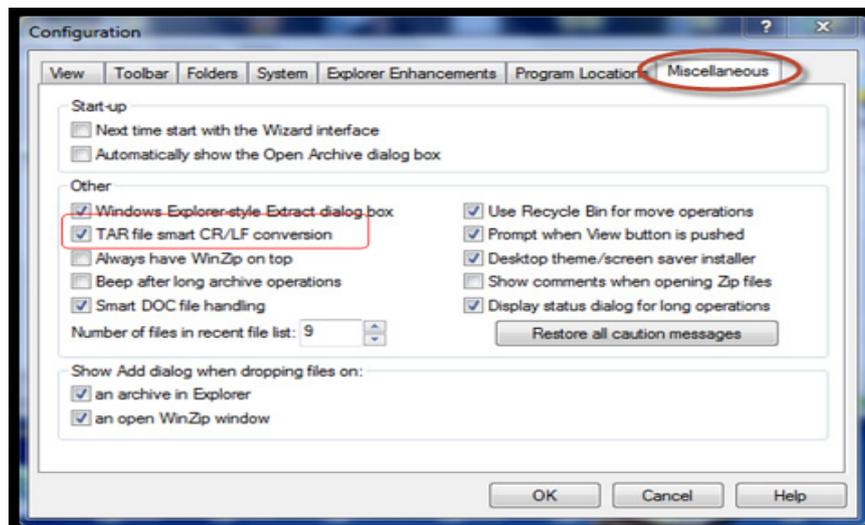

Figure 96 Selecting Miscellaneous tab
3. Select **Configuration**, and then the **Miscellaneous** tab, as shown in Figure 96 on page 85.